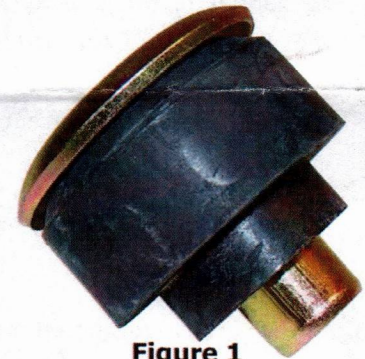

Figure 1
4. Pre-assemble the following parts to make installation easier later. See Figure 1.
- Upper Grille Mount Bushing (B) to the Grille Mount Sleeve (A)
- Large Upper Body Mount Bushings (F) to the Large Body Mount Sleeves (E)
- Small Upper Body Mount Bushings (I) to the Small Body Mount Sleeves (H)